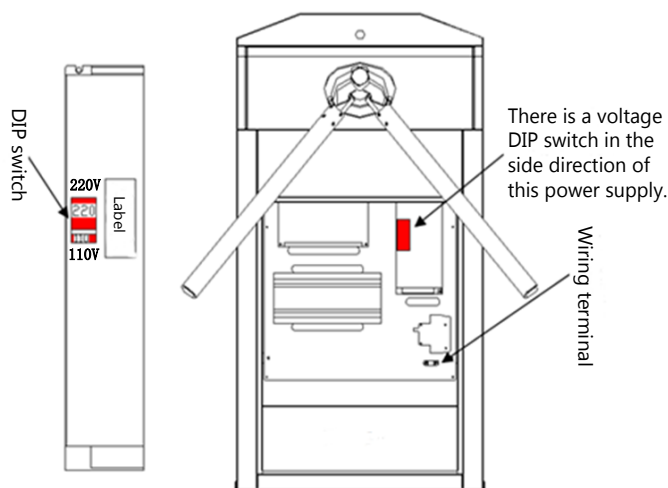

Figure 2-4
1. Please make sure that the power requirements are strictly met to avoid permanent damage to the unit. You could change the input voltage 110V or 220V through the DIP switch, as shown in figure 2-4.